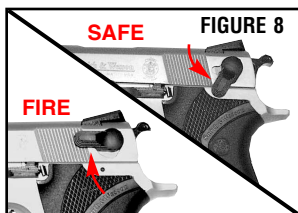

FIGURE 8
- Familiarize yourself with the decocking lever on your autoloading pistol. When the decocking lever is fully up (parallel to the top of the slide) as shown in Figure 8, it is in the "fire" position; when the decocking lever is fully down, as shown in Figure 8, it is in the "safe" position. Notice how the decocking lever looks and feels in each of the two positions of its extreme travel - fully up for "fire" and fully down for "safe".